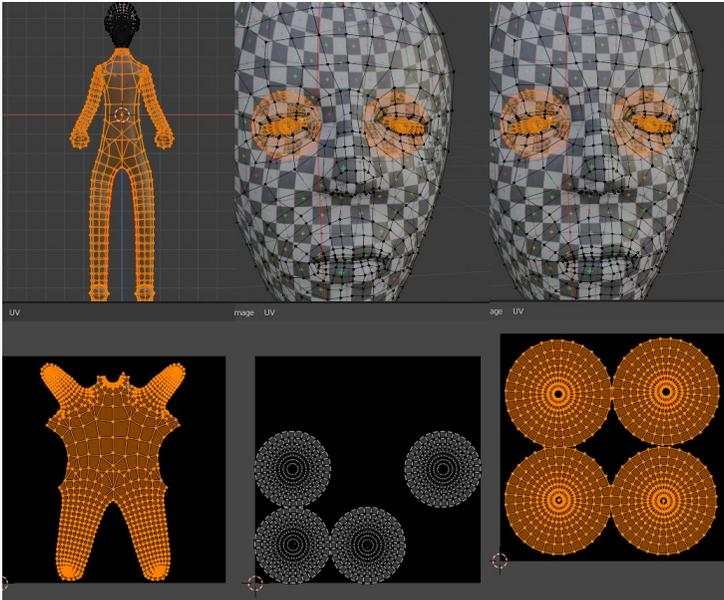

Figure 8-3 Unwrapped body and eyes
12. Repeat the unwrapping process for the body and the eyes as shown in Figure 8-3. There is no need to swap the texture to use the UV grid image for these two.